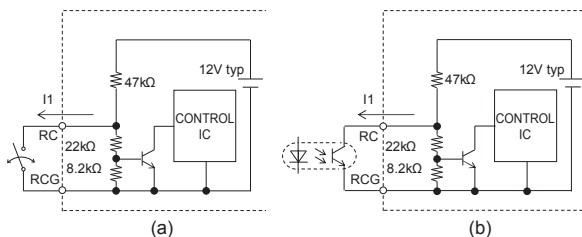

Fig.3.1 Examples of connecting remote ON/OFF circuit
- Remote ON/OFF circuit (RC, RCG) is on the primary side (input side), and the RCG is connected to the  $-VIN$  terminal inside the power supply. If it is controlled via an input filter or from the secondary side, insulate it with a photocoupler or similar. (Fig. 3.1(b))